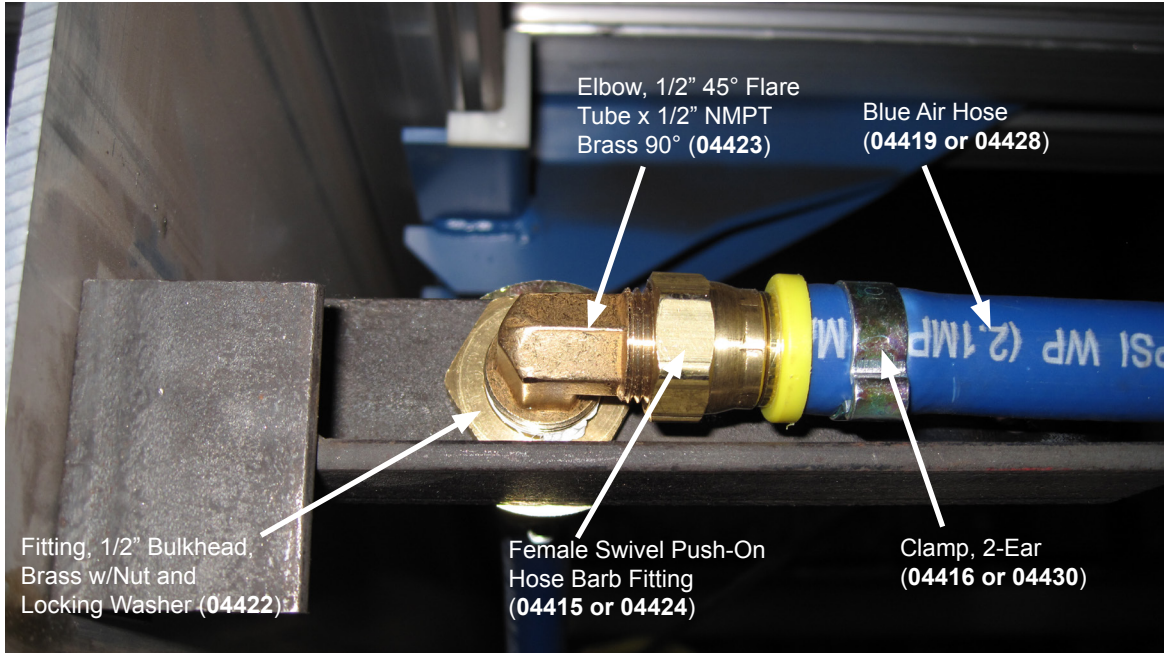

Figure 3. Incoming air connection.
3. Connect elbow, 1/2" 45° flared tube x 1/2" NMPT brass 90° elbow to bulkhead fitting (**figure 3**).
Assemble Hose (repeat steps for connection on supply side in **figure 3**)